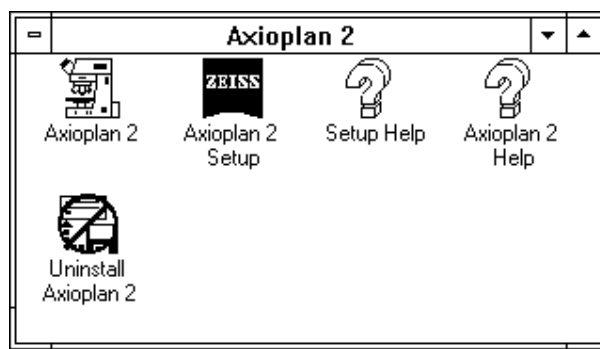

Fig. 41 Program window of the Microscop Software
- Activate the **Axioplan 2** program symbol with a double click (Fig. 41).